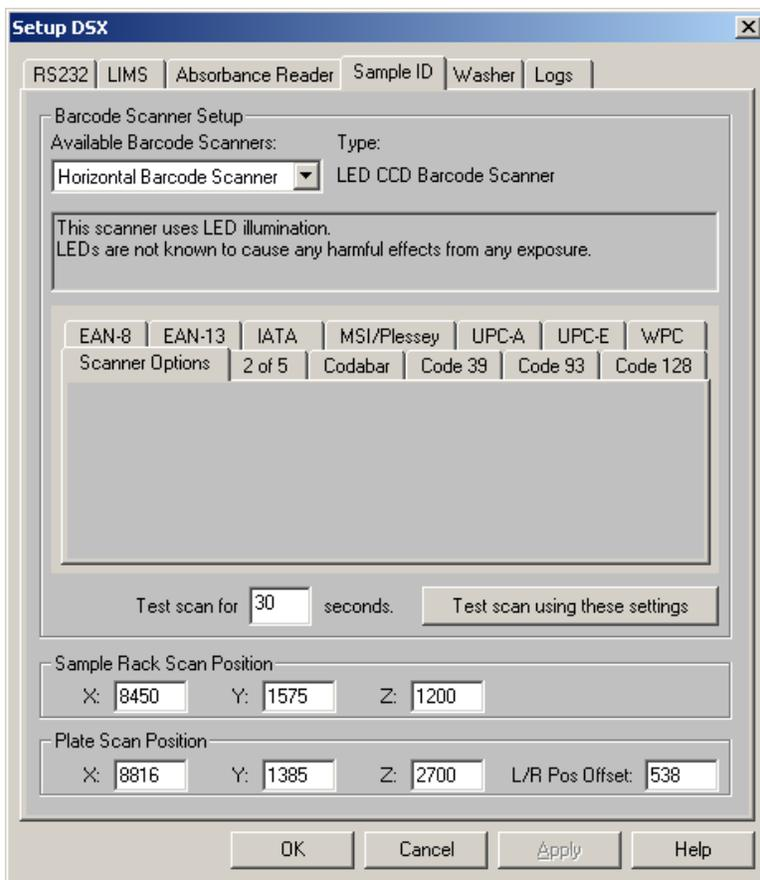

Figure 15-14 The Sample ID Tab - Horizontal Scanner
In each instance, the service engineer should highlight the desired test and click **Do It**. The status line will indicate that the test is being performed and will present information about the test after it is complete. If the status line indicates an error, it may be necessary to adjust the Sample Rack Scan Position or the Plate Rack Position (see Figure 15-14) or replace the Scan Module.
- 2 Select the Sample ID tab (Figure 15-14). The window will indicate the current scanner settings.